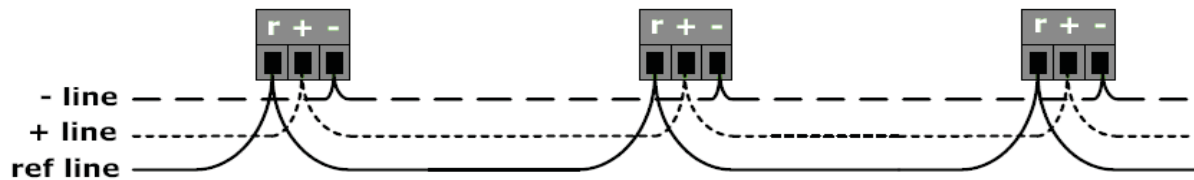

Figure 6. Daisy chain layout for RS-485 network
3. Connect a ground reference line to the third connection on the modbus slave connector. It is recommended that PV Powered devices have connected grounds when possible. The “ref line” (r connector) in Figure 6 below shows the ground connection.
When multiple inverters or other modbus slave devices are connected to a single modbus master device, the multiple devices need to be connected in a daisy chain as shown in Figure 6. A daisy chain means that all plus (+) connections are chained together and all minus (-) connections are chained together across the network.